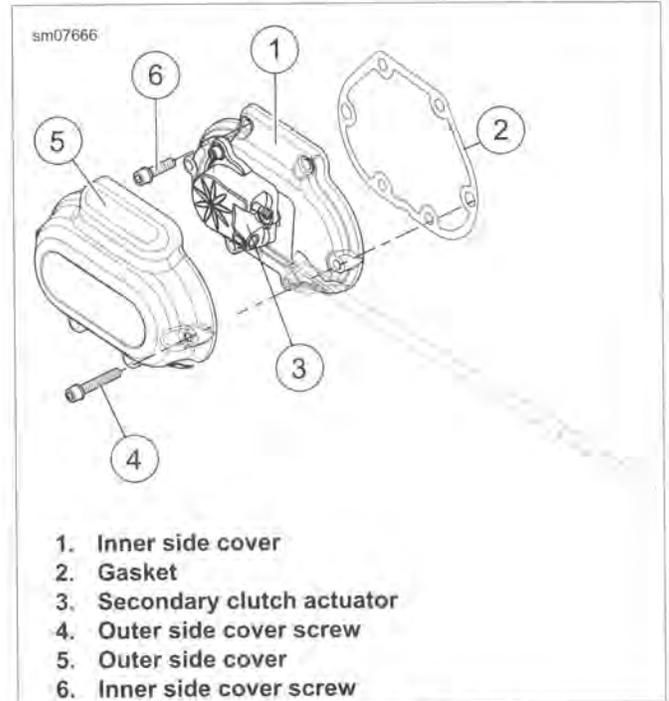

Figure 6-7. Transmission Side Covers
6. See Figure 6-7. Remove outer side cover (5).
7. If necessary, remove secondary clutch actuator (3). See 6.7 SECONDARY CLUTCH ACTUATOR.
8. Remove inner side cover (1). Discard gasket (2).
1. See Figure 6-7. Place a **new** clutch release gasket (2) on locating dowels and position inner side cover on transmission.
3. If removed, install secondary clutch actuator (3). See 6.7 SECONDARY CLUTCH ACTUATOR.